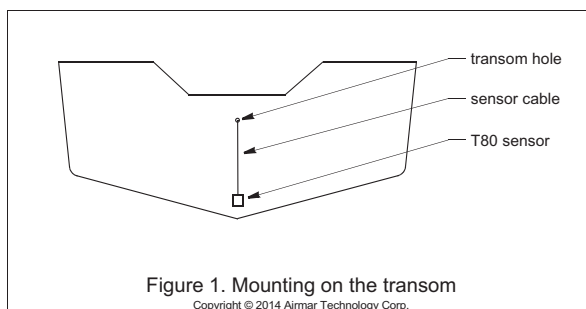

Figure 1. Mounting on the transom
1. Remove the hull nut (see Figure 1).
2. Push the sensor into the mounting hole using a twisting motion to squeeze out excess marine sealant (see Figure 1).
**CAUTION:** Mount the sensor as close to the centerline (keel) of the boat as possible to ensure the sensor remains in the water when the boat is turning (see Figure1).